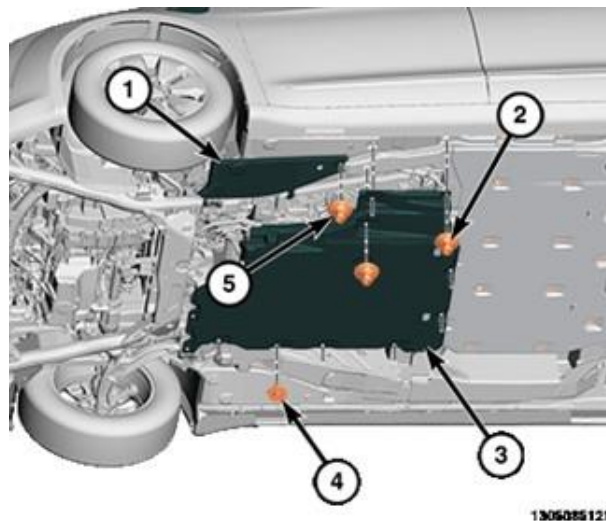

Figure 33 – Charger Belly Pan
48. Remove the fasteners (2, 4, 5) from the charger belly pan (1, 3) then remove the charger belly pan (Figure 33).